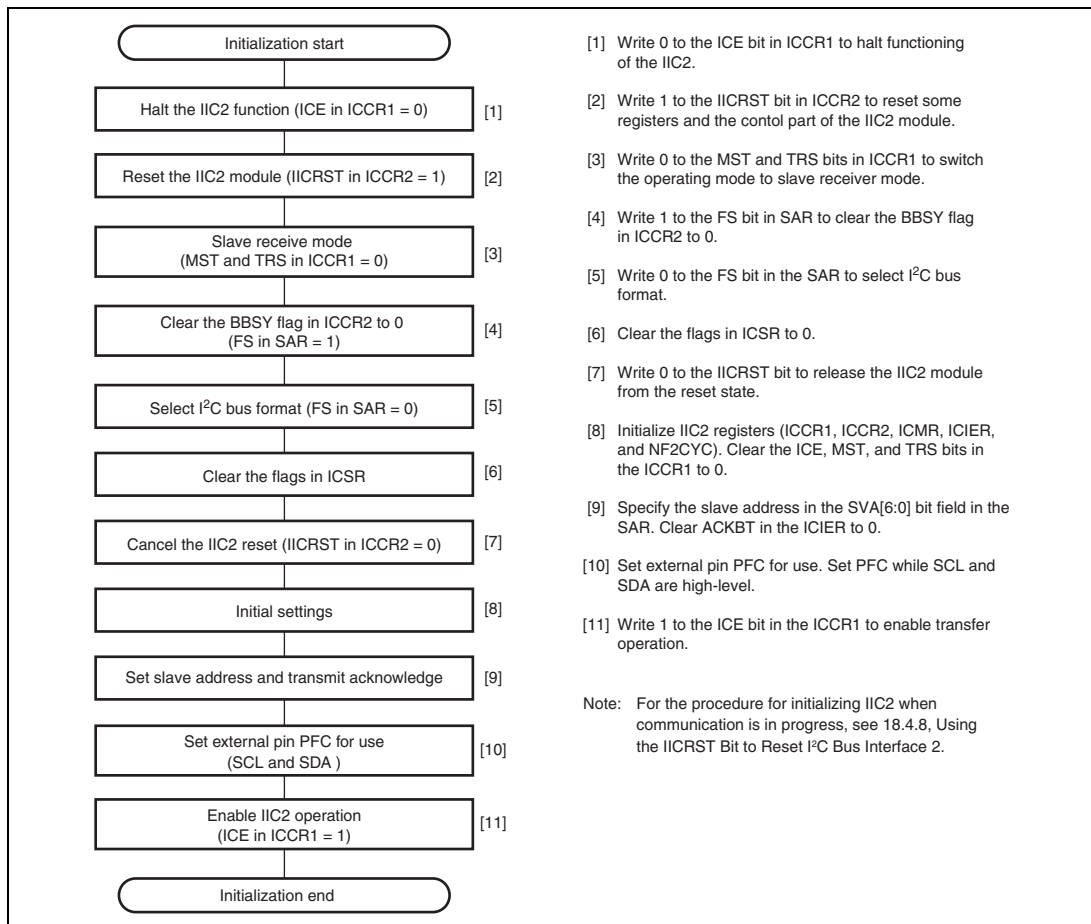

Figure 18.7 Flowchart of Initialization of I²C Bus Interface 2
1. Initialize IIC2 (figure 18.7). After initialization, set the ICE bit in ICCR1 to 1.
1. Initialize IIC2 (figure 18.7). After initialization, set the ICE bit in ICCR1 to 1. Set the MST and TRS bits in ICCR1 to select slave receive mode, and wait until the slave address matches.